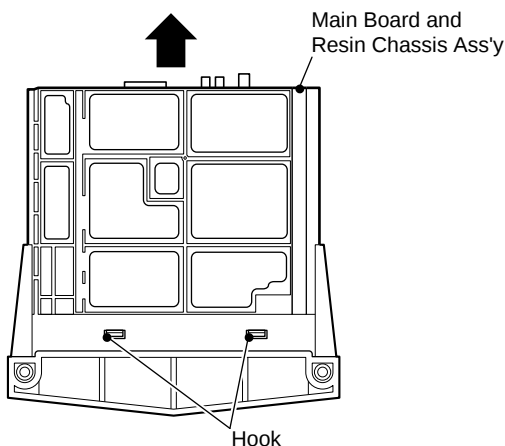

Fig. 3
- Referring to Fig. 3, pull out the Main Board and the Resin Chassis Ass'y until it stops while pressing the two hooks on the bottom face.